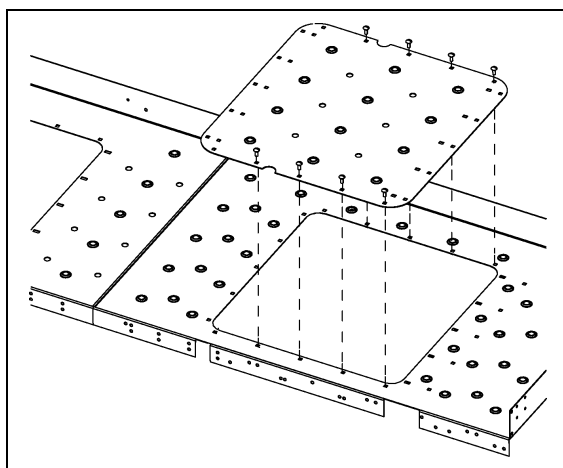

Figure 9F Hatch at Up-Leg End
5. Attach the hatch cover plate to Deck A using eight (8) 3/8" x 1" carriage bolts (S-3585) with flange nuts (S-10028). (See Figure 9F.)